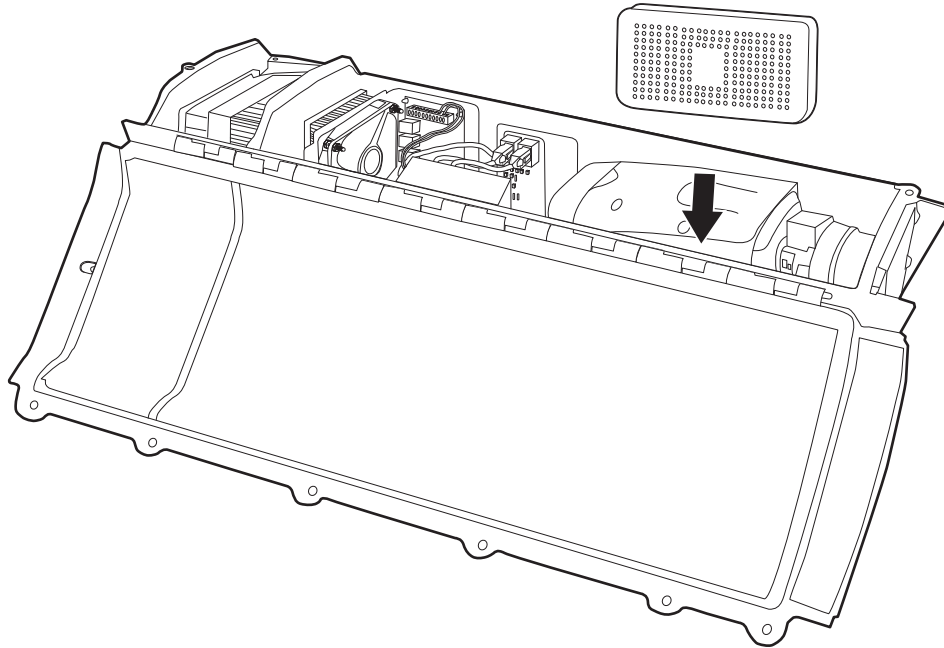

Figure 13. Placement of Desiccant Canister in FH-L, FH-M, and FH-S Series Enclosure Models
2. Place the desiccant canister in the enclosure near the camera, making sure the small inspection window on the desiccant canister is facing the camera (refer to Figure 13).